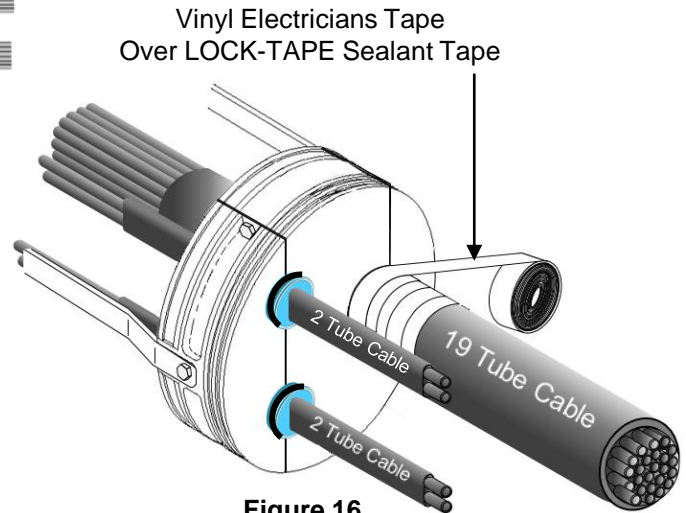

Figure 16
10.18 Apply Two (2) wraps of Vinyl Electricians Tape around "LOCK-TAPE" Sealant tape outside of the End Plates. **See Fig. 16.**